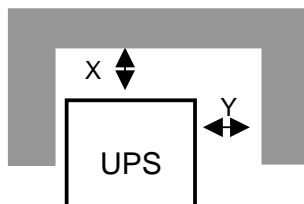

Figure 3.1: UPS space recommendation
- Minimum 10cm rear space is recommended for accessibility (see Figure 3.1 and 3.2);